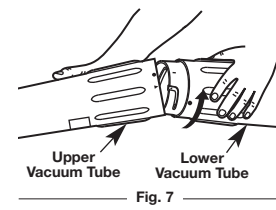

Fig. 7
3. Align the arrow on the lower vacuum tube with the arrow on the upper vacuum tube (Fig. 7).